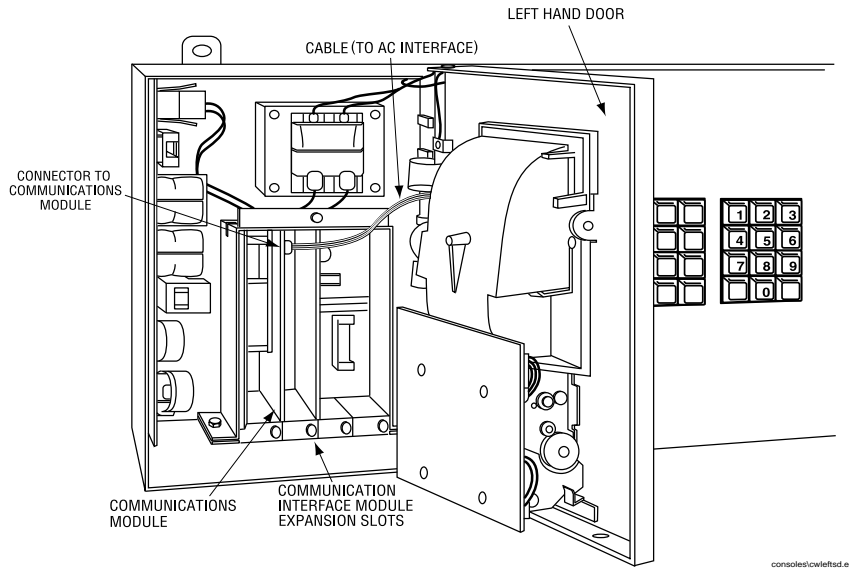
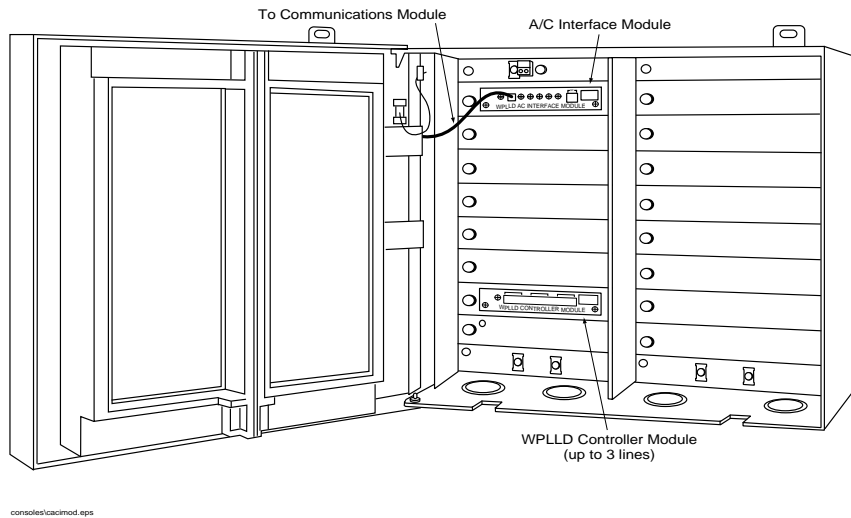

Figure 4. Communications Interface Area
Figure 5. AC Interface and Controller Modules
7. Hold the module with its snap-in fastener positioned at the lower edge and carefully slide the module into its slot (see Figure 3 on page 6 and Figure 4 on page 9).
10. Connect the cable provided (Veeder-Root Part No. 330869-001) to the AC Interface Module (as shown in Figure 5 on page 9) and then to the WPLLD Communications Module (Figure 4 on page 9) by threading the cable over the partition between the communications area and the high voltage area (behind the doors).